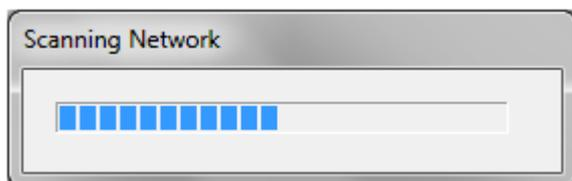

Figure 10 Scan Network Status Window
8. Select the **Scan Network** option. A menu will appear on the screen showing that the software is scanning the network for datagrams originating from the NetPod instruments. As each instrument is identified its name is shown on the program main screen. (See Fig 10 on page 26)